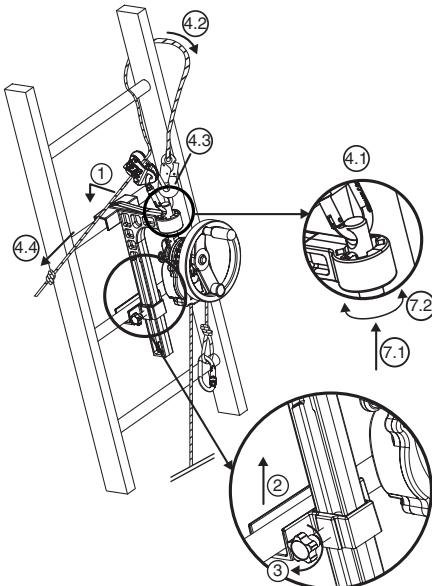

Fig. 6
#### 6.3.2. derope™ UP B descender (Fig.6)
1. Place the large locking bracket on the ladder bar in the position chosen to carry out the rescue operation above the person to be evacuated (Fig.6, 1).
2. Push up the locking slide at the ladder bar immediately below the bar receiving the large bracket (Fig.6, 2).
3. Tighten the locking pin securing the slide using the clamping knob located on the side of the bracket (Fig.6, 3).
- Secure the connector of the adjustment device LCM 05 in the hole at the top of the fastening pin (Fig.6, 4.1).
- Run the belay lanyard around the ladder bar located above the bracket, going around one of the ladder uprights (Fig.6, 4.2).
- Connect the belay lanyard connector in the connector of the adjustment device LCM 05 (Fig.6, 4.3).
- Tension the belay lanyard by pulling on the free strand (Fig.6, 4.4).
- 7. Align the derope™ descender as may be required, modifying the position of the fastening pin in the indexing device (Fig.6, 7.1 – 7.2).